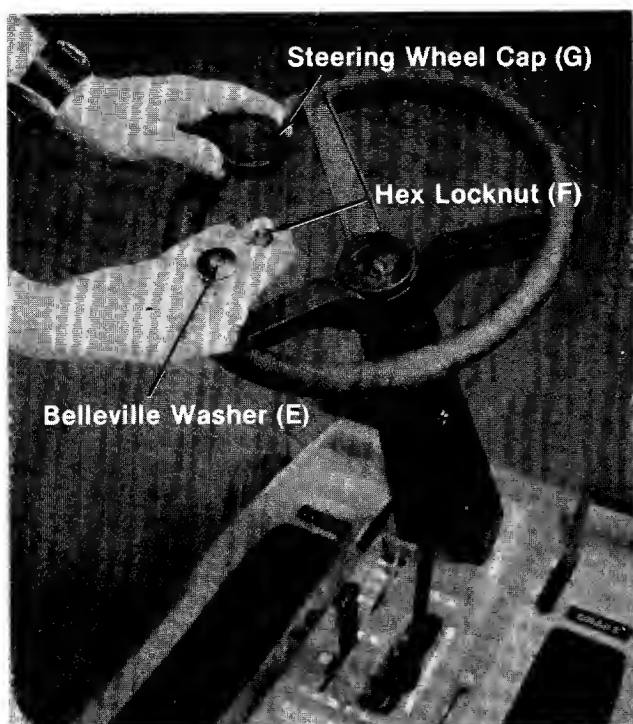

FIGURE 5.
8. Place the steering wheel on the tubing assembly and fasten with belleville washer (E) and hex lock nut (F). See figure 5.
10. Place the steering wheel cap on by hand. See figure 5.